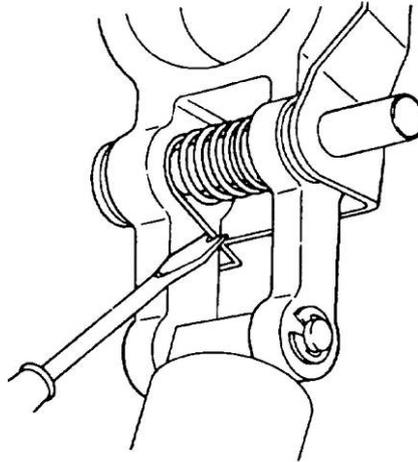

Figure 114 Attaching the Cancel Spring to the Tension Lever
- l. Using a suitable tool, e.g. a Vee-notch screwdriver, attach the cancel spring to the tension lever (Figure 114).